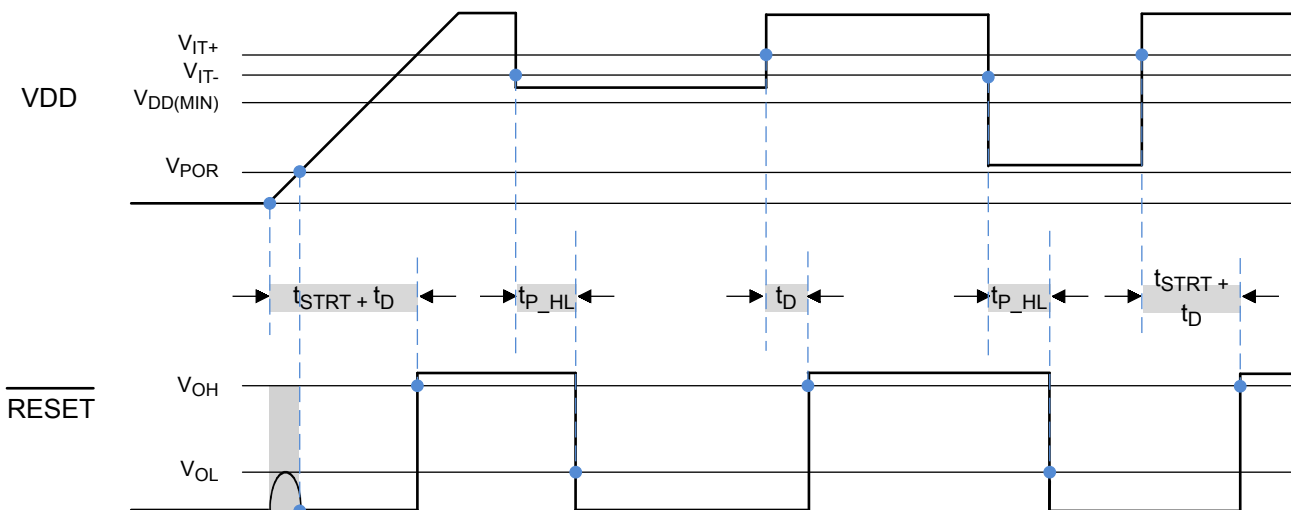

Figure 2-1. TPS3840 timing diagram.
(3) If the logic signal driving  $\overline{MR}$  is less than  $V_{DD}$ , then additional current flows into  $V_{DD}$  and out of  $\overline{MR}$ .
**VIT-** – Negative input threshold voltage. VIT- can be expressed as a voltage or as an accuracy percentage around the nominal threshold voltage. This is the voltage threshold at which the voltage supervisor detects an undervoltage condition. Notice how in **Figure 2-1** once the voltage drops under VIT-, the reset is activated after the propagation delay or TP-HL.
**VHYS** – Threshold voltage hysteresis. This is the difference between the rising (VIT+) and falling (VIT-) thresholds to prevent false triggers if the monitored voltage is oscillating around VIT-. Once the monitored voltage rises above VIT+, the supervisor will clear the fault. Follow the timing diagram in **Figure 2-1** for a visual of this action.
$T_{P\_HL}$  – Propagation delay. This is the amount of time it takes for the device to trigger a fault event. See the timing diagram in **Figure 2-1** for a visual of the propagation delay.
$T_D$  – Reset time delay. This is the amount of time it takes for the device to release from a fault condition once there is no longer a fault. Check the reset time delay configuration for the device used, as some supervisors have programmable reset time delays. See the timing diagram in **Figure 2-1** in the Electrical Characteristics section for a visual representation of  $T_D$ .